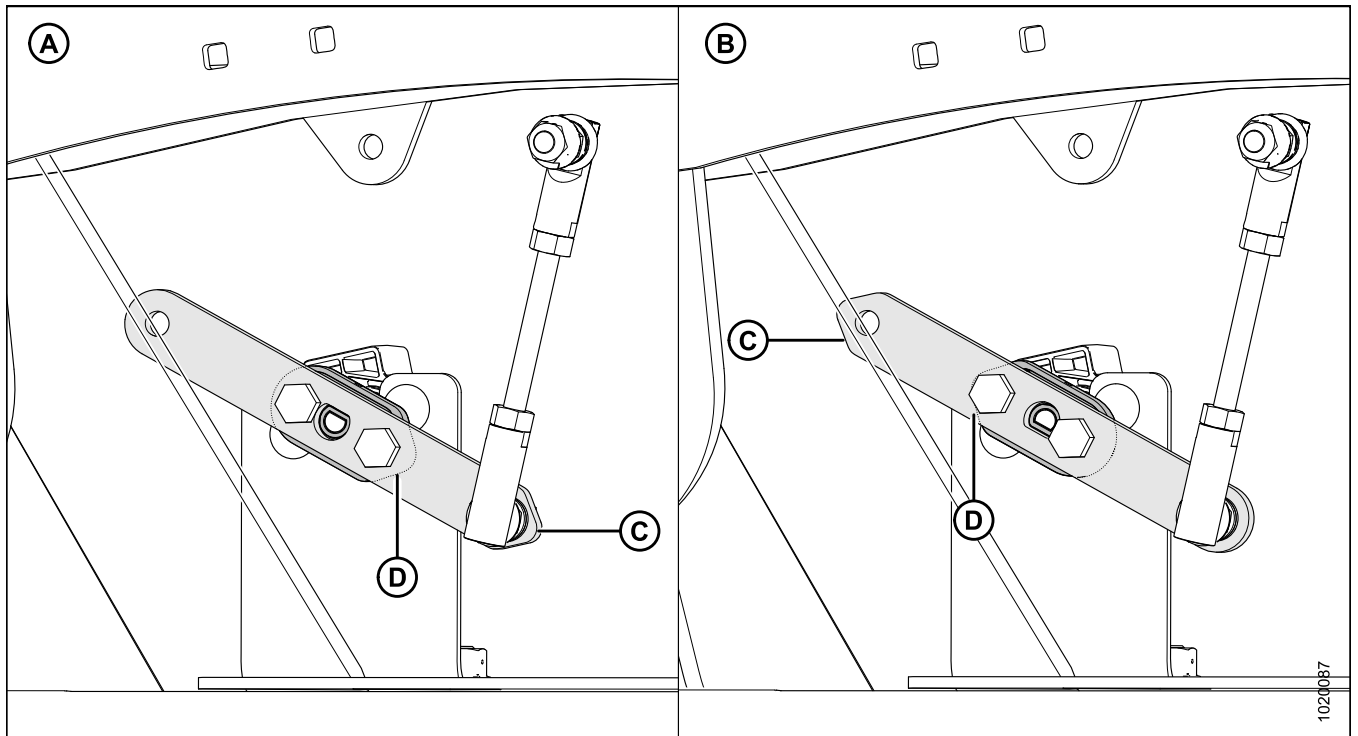

Figure 3.16: Reel Height Sensor
2. Check that arm (C) and sensor pointer (D) are configured properly for your combine. Refer to Figure 3.16: *Reel Height Sensor*, page 23.